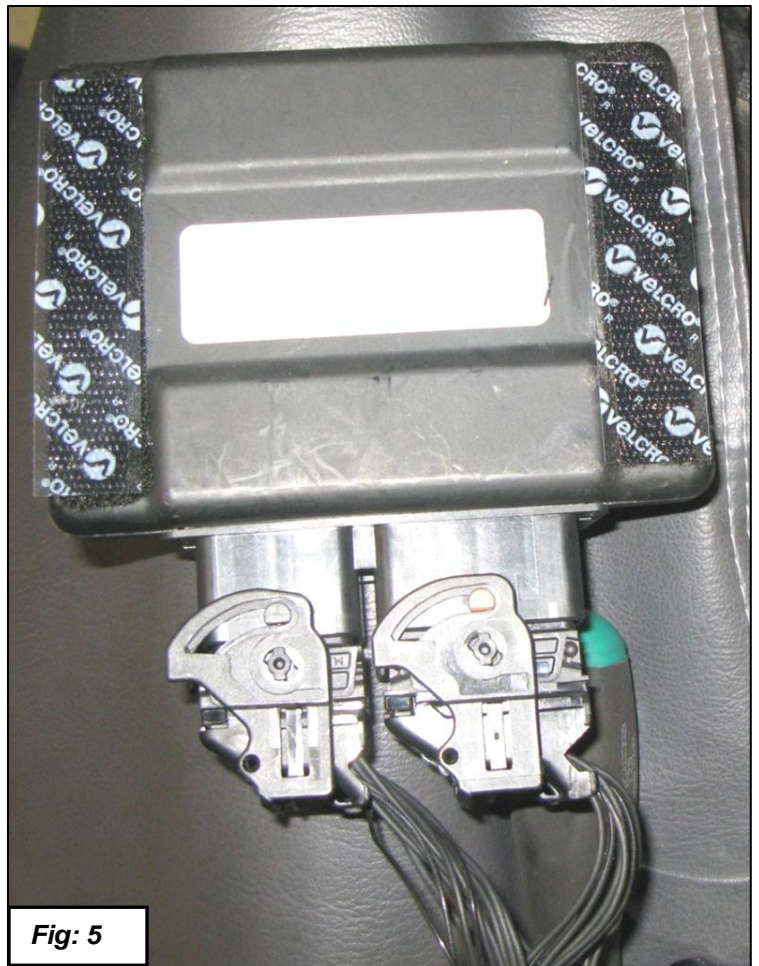

Fig: 5
5. Attach Velcro strips using the double stick tape to the back of the DPT ECU. Attach the hard hook side of the Velcro to the box after cleaning the surface first. See figure 5.
6. Attach the connectors to the DPT ECU starting with the large one first. See figure 5.